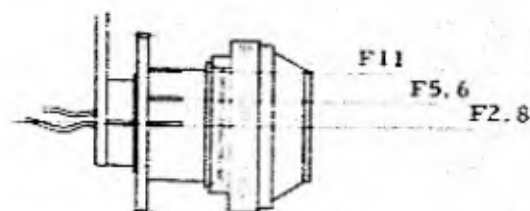

Fig. 71
- 4) Check Needle position at f2.8, 5.6 and 11. Fig. 71.